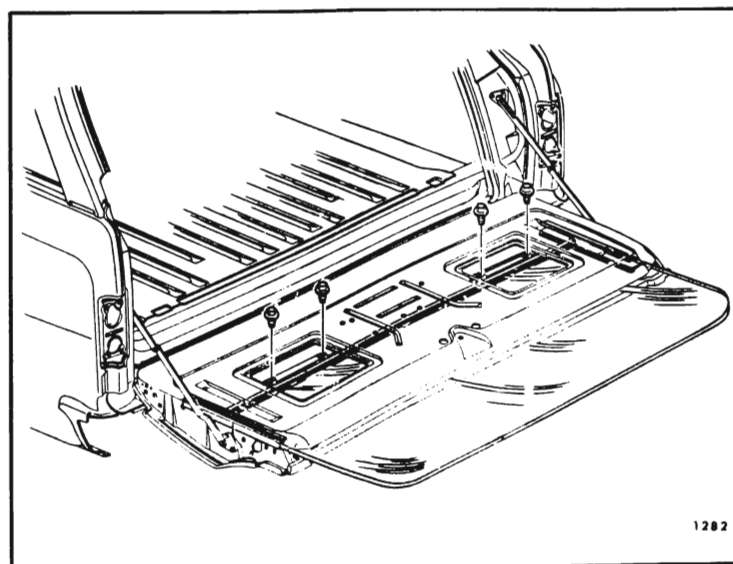

Fig. 9-35—Tail Gate Inner Panel Cams Attachment
2. Operate tail gate window to a point that sash channel cam attaching bolts are accessible as depicted in Figure 9-35.
3. Remove right and left cam attaching bolts (Fig. 9-35). Slide cams sideways to disengage from regulator lift arm rollers and remove cams from tail gate.